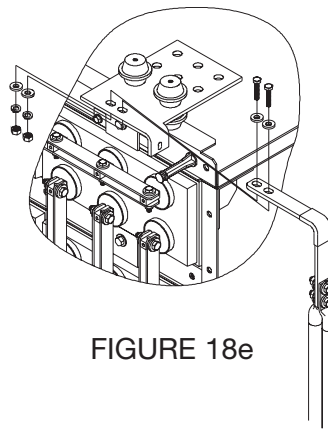

FIGURE 18e
8. For the final system connection, bolt the L-Bracket to the terminal plate as shown in Figure 18e.